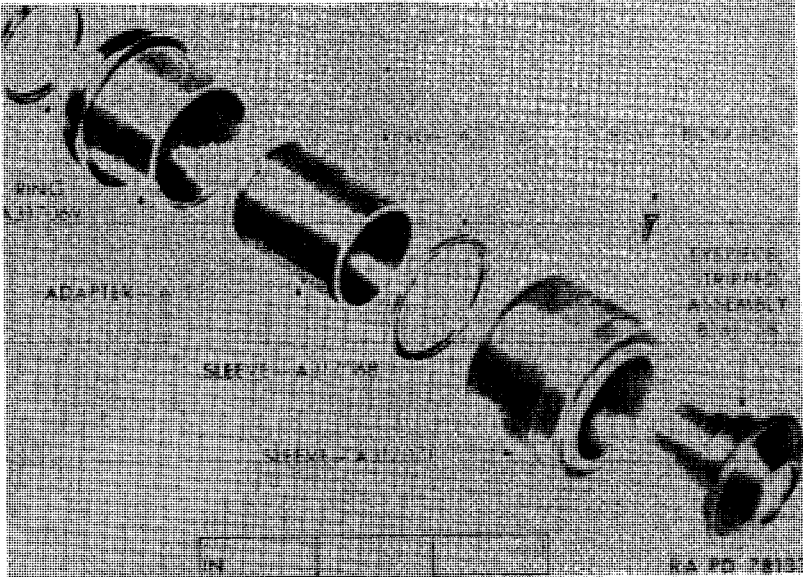

Figure 15-Observation Telescope M49-Focusing Mechanism With Eyepiece Assembly C130787 Partially Disassembled
(2) Remove eyepiece assembly C130787 from prism housing assembly by unscrewing adapter (fig. 15).
(3) Unscrew stripped eyepiece assembly B180758 (fig. 15) from focusing sleeve A317071.
(4) Loosen locking screw BCKX3AD and remove focusing sleeve from threaded sleeve A317068.
(5) Unscrew threaded sleeve from adapter A317070. NOTE: The threaded sleeve is screwed into the adapter from the front and is unscrewed by turning in a clockwise direction.
(6) Remove stop ring A317067 from front end of threaded sleeve, exercising care not to damage threads in doing so.